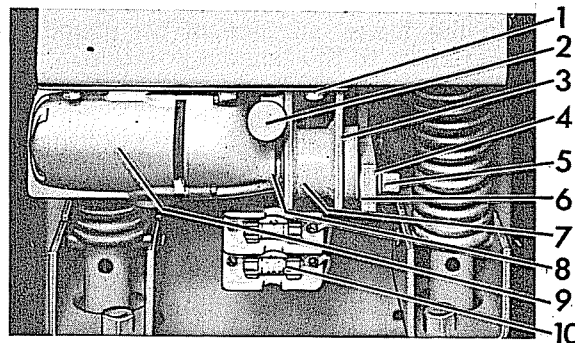

Figure 15. (8034471) Driving Elements
Refer to Figure 15. On breakers with "C" suffix, a set of protecting fuses (10) are mounted on the front of the breaker. These fuses are the primary protective devices for the closing control circuit on those breakers that are used in metal-clad units designed for solenoid operated breakers.